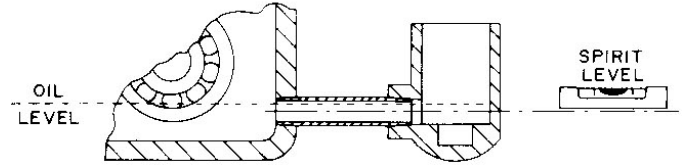
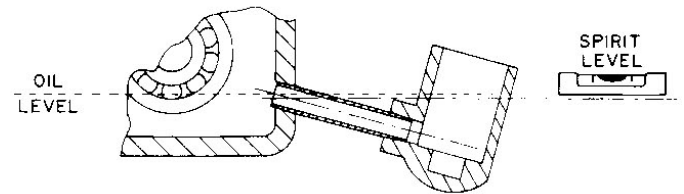

Figure 18
Figure 20
1. Check the center line of the lubricator and confirm that it is parallel with the bearing housing (Figure 18 & 19). Use spirit level if possible. Should a condition as in Figure 20 occur, the lubricator will not function properly. This condition must be corrected either by re-tapping the bearing housing or by adjusting the pipes.